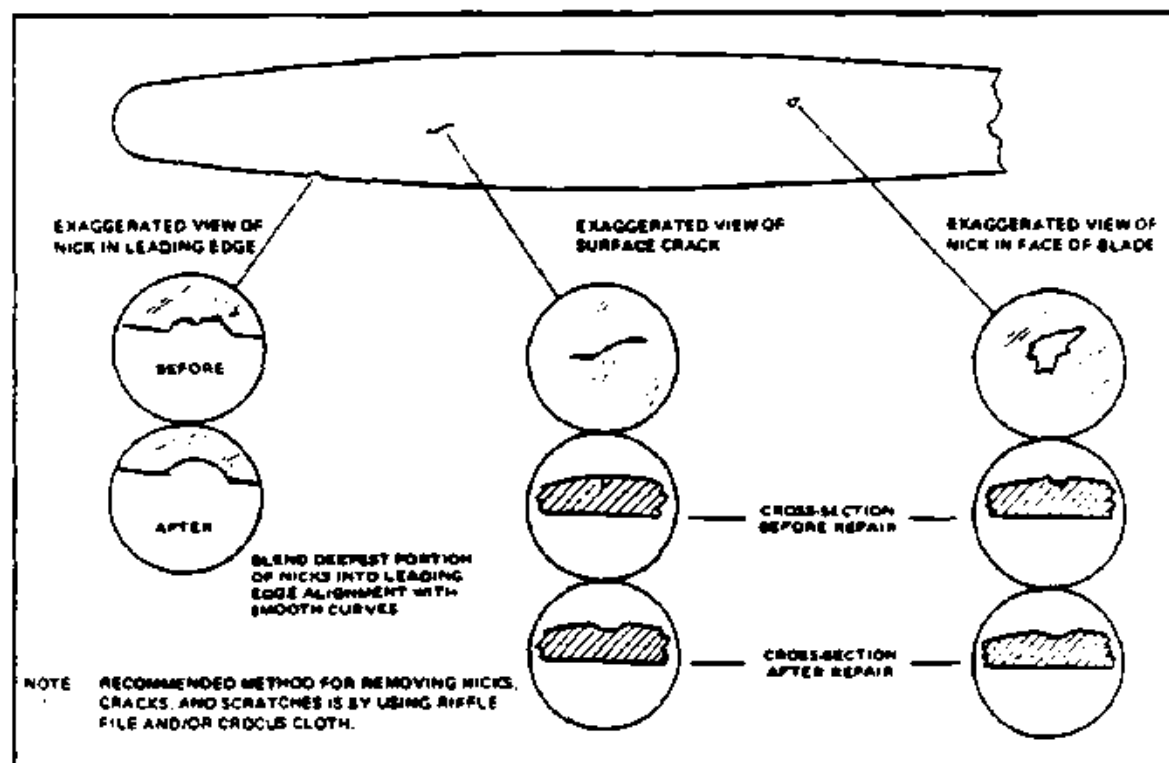

Figure 8A-3. Typical Nicks and Removal Methods
- g. Inspect blades for damage or cracks. Nicks in leading edges of blades should be filed out and all edges rounded, as cracks sometimes start from such places. Use fine emery cloth for finishing. Refer to Figure 8A-3 for propeller blade care.
**8A-11. INSTALLATION OF PROPELLER. (Refer to Figure 8A-2.)**
- b. Install spinner bulkhead (13) on propeller hub and secure with locknuts. Torque bolts to specifications given in Table VIIIA-1.
- d. Position the prop flange and starter ring gear so the two short bushings are horizontal. (Refer to Figure 8A-2.)
- e. Lubricate and install O-ring (15) in prop hub.
- f. Install sleeve (19), spring (18), thimble (17), and shim (16) in engine crankshaft on propeller installations NOT using the spring back-up system in the hub.
- i. Install spinner (7). Torque spinner screws (8) and check nut (4) per Table VIIIA-1. Safety check nut with MS20995-C41 wire.